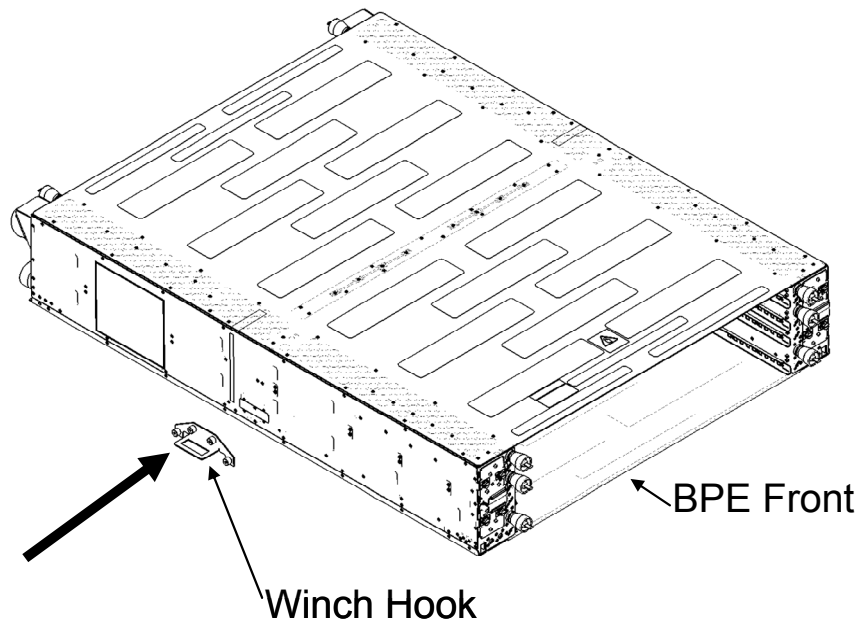

**Figure 38 Lift tool showing white roller engagement area and the transfer cart black rubber guides**
74. Position the transfer cart to the left side of the lift tool. The black guides on the transfer cart should be on either side of the white roller of on the lift tool (see **Figure 38** and **Figure 39**). There is also a latch on the lift tool upright that connects to the transfer cart.